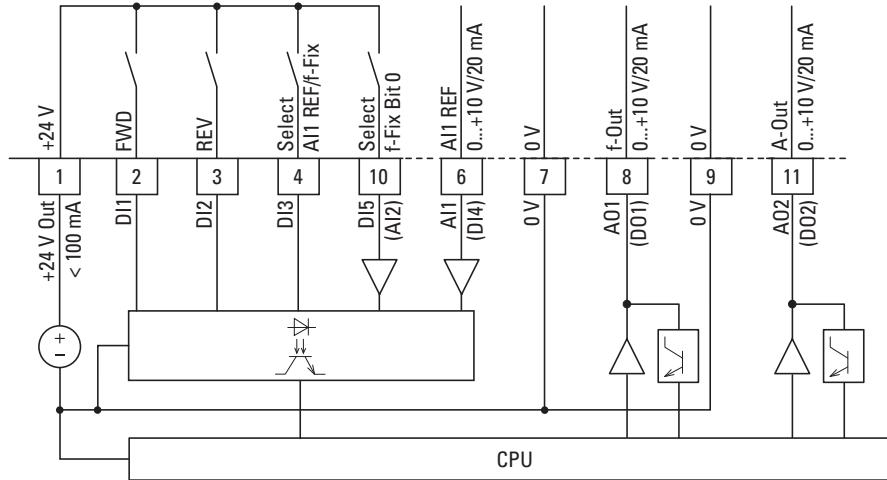

Figure 80: Control signal terminals (digital / analog)
Depending on how parameters P1-12 and P1-13 are set, control signal terminals 6 (AI1) and 10 (AI2) can be connected to analog signals (→ figure 80):
Analog signals are available at the control terminals 8 and 11 (→ figure 80). These outputs can handle a maximum load of 20 mA. The output signals can be selected using parameters P2-11 (AO1) and P2-13 (AO2). Parameters P2-12 (AO1) and P2-14 (AO2) are used to configure the formats for the analog inputs:
Control signal terminals 8 and 11 (→ figure 80) are configured as analog outputs (AO) by default. Parameters P2-11 and P2-13 can be used to configure them as digital outputs (DO) instead.